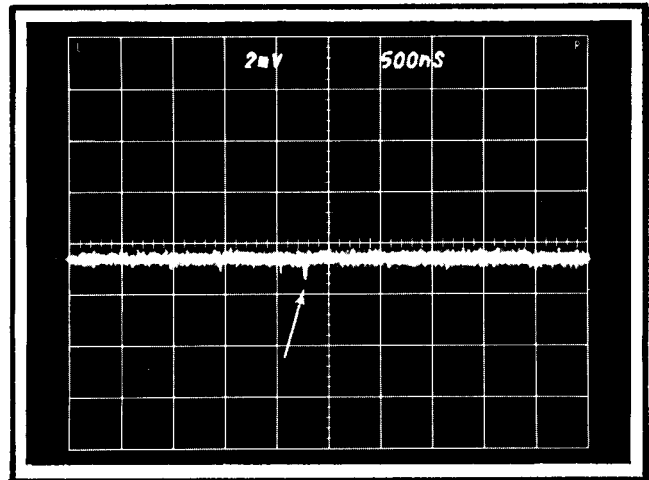

Fig. 5-12. Typical display of trigger kickout.
d. Check that the trigger kickout pulse is within 2 mV or less (see Fig. 5-12).